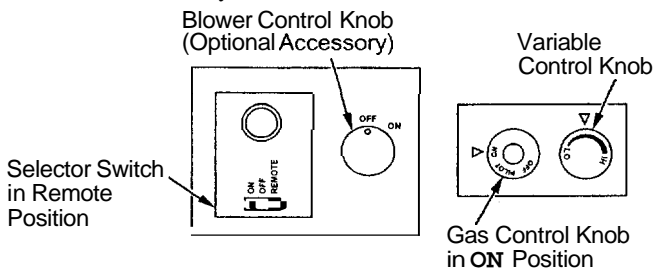

Figure 53- Setting the Selector Switch, Gas Control Knob, and Variable Control Knob for Remote Operation
- After lighting, let pilot flame burn for about one minute. Turn control knob to ON position. Adjust flame adjustment knob anywhere between HI and LO. Slide the selector switch to the REMOTE position (see Figure 53). *Note:* The burner may light if hand-held remote was on when selector switch was last turned off. You can now turn the burner on and off with the hand-held remote control unit.